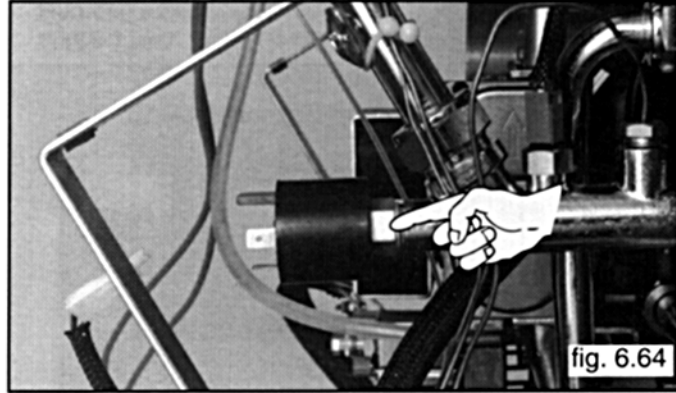

fig. 6.64
- 4 Remove pump pressure switch using a 17mm open ended (see fig.6.64);